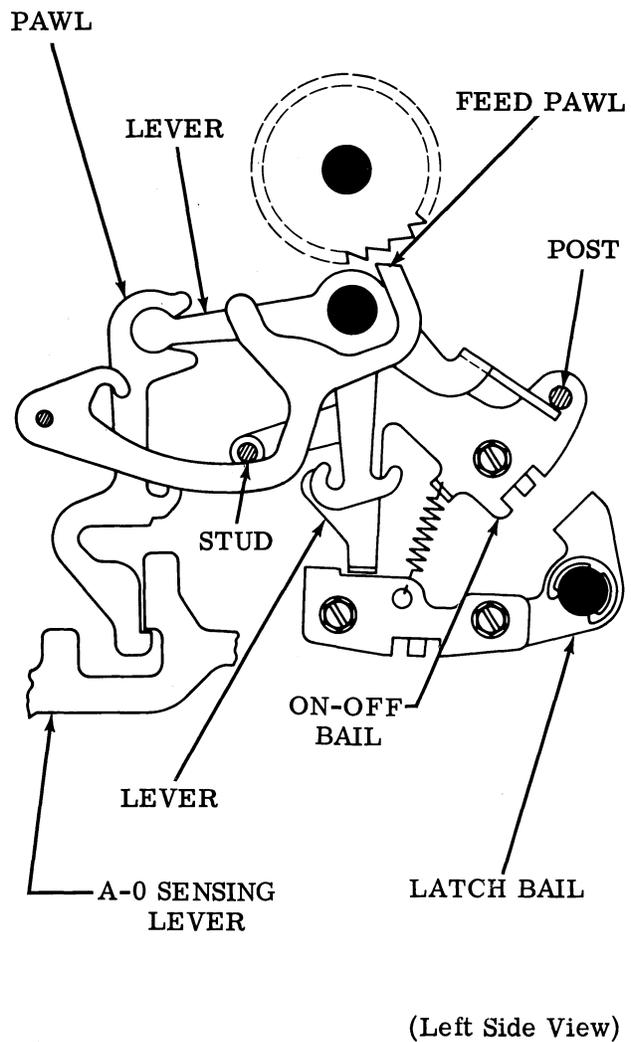

Figure 14 - Automatic OFF Mechanism
- 5.12 Automatic OFF (Figure 14) – When the CTRL and T keytops are depressed on the keyboard, the tape punch off code combination is set up in the typing unit codebars and codebar extensions. The A-0 sensing lever senses the codebar extensions and positions a pawl and lever. The lever has an extension which causes the post of the on-off bail to move upward. Simultaneously, the stud engages the feed pawl and pulls it down disengaging it from the feed wheel ratchet. The on-off bail lever drops in the engaging